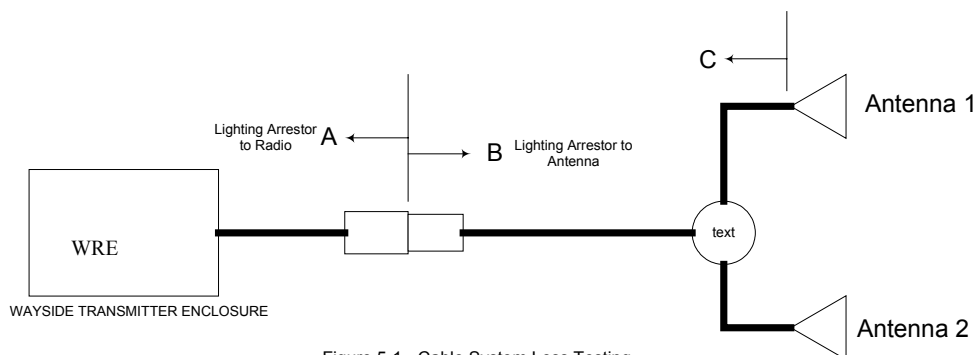

Figure 5-1 - Cable System Loss Testing
1. RF coaxial cable tests - this test will be performed using the Anritsu Site Master 251C Antenna & Cable Analyzer. The Anritsu 251C will be used to measure power output at point "A". This reading will be recorded in the WRE Power Output column of the Test Record Form in Annex TR and will use the Power Meter Function of the Anritsu 251C. The Anritsu 251C will also be used to measure reflected power in the cable system between the lightning arrestor to the antenna ("B" to "C"). This reading will be recorded in the Cable Reflected Power Loss column of the Test Record Form in Annex TR. These tests will be as per Figure 5.1 & 5.2 below and are indicators of overall system quality. Shown is a dual and quad antenna array, but any configuration shown in the annexes can be used.